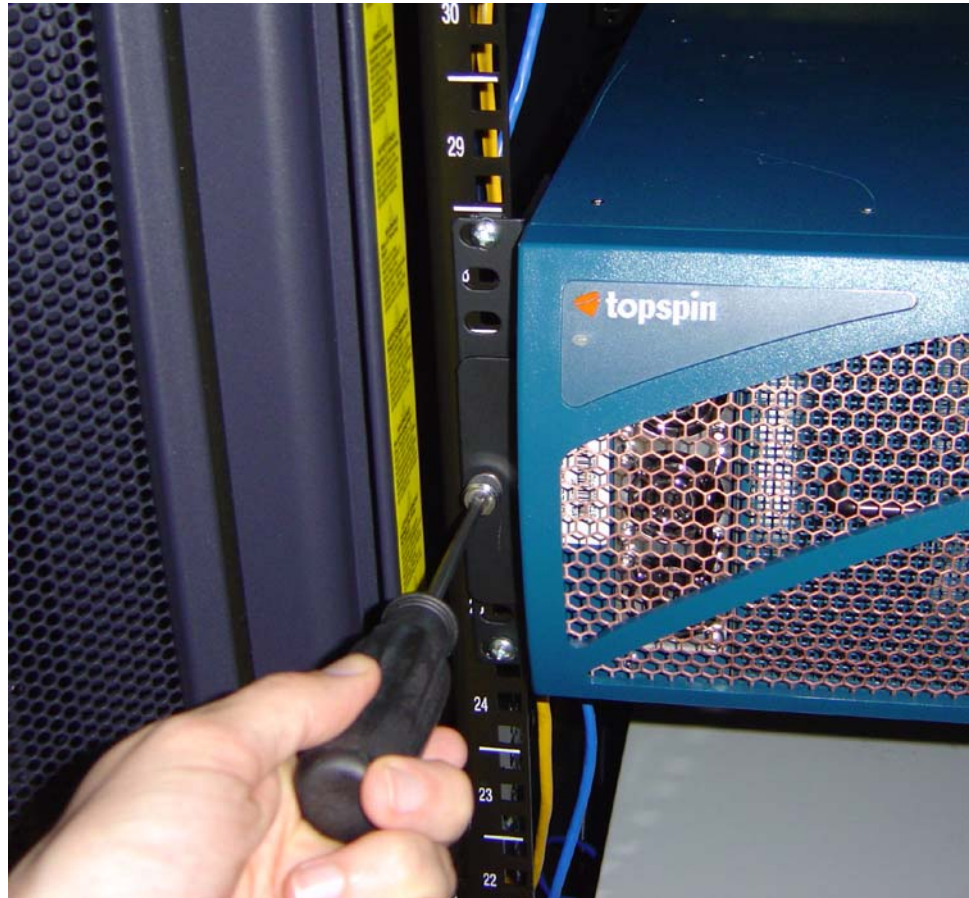

Figure 1-8: Securing the Chassis to the Rails
14. Screw the flange screws tightly into the rails, as shown in Figure 1-8.